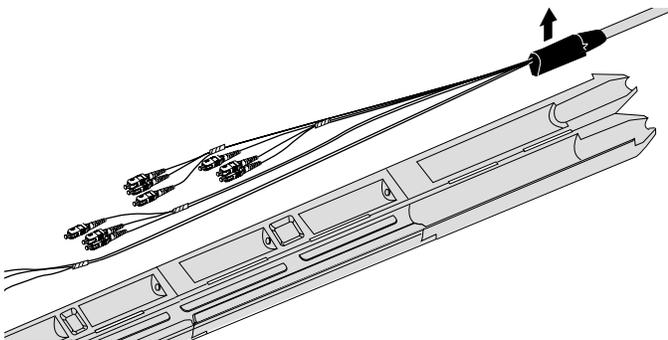

Figure 16
5.9 Lift the cable plug from the grip (Figure 16) and install the plug and connectors according to the appropriate hardware instructions.